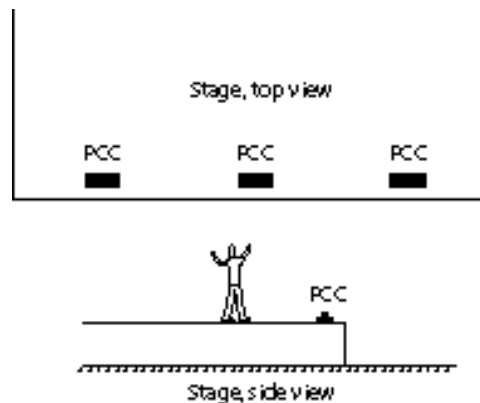

Fig. 9
- Try one to three PCCs across the front edge of the stage, about 1 foot from the edge of the stage (Fig. 9). One or two PCCs are usually sufficient for small stages, and they clearly pick up stage action for dressing room cues. Place two PCCs about 20 feet apart; place three PCCs about 15 feet apart.